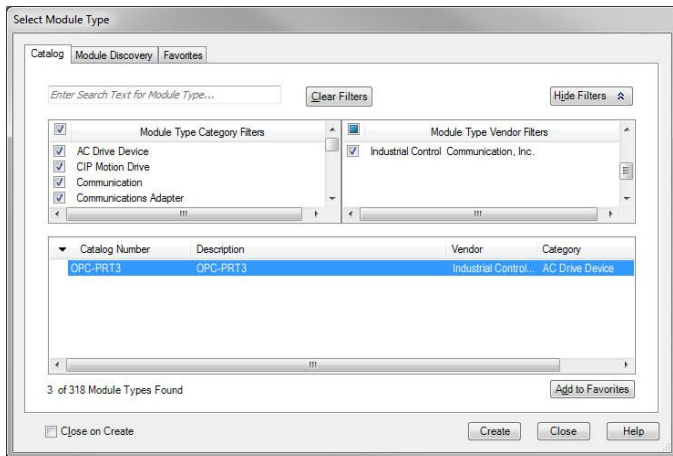

Figure 31: Adding a New Interface Card Module
- 11) Find the interface card in the "Select Module" dialog box as shown in Figure 31.